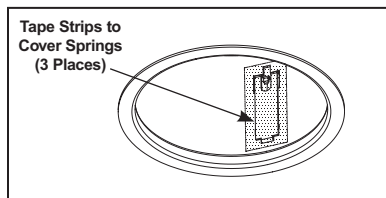

Figure 4
**Step 5.** To seal housing after confirming correct operation, apply supplied tape strips to completely cover each of the three retention clips and slots. Do not substitute with other materials (Fig. 4).